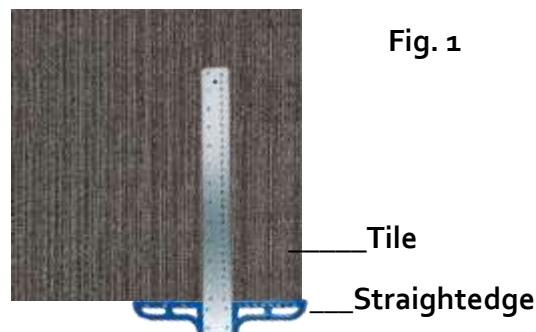

Fig. 1
**(Figure 1)** One method of trimming the tiles is to measure the distance between the wall and the closest installed full tile. Utilizing the measurement, mark the back of the tile to be trimmed with a pencil or pen and a straightedge or other straight object. Using a sharp blade, score the tile along the marked line and bend or break the tile. Sever the tile along the line using a sharp blade.